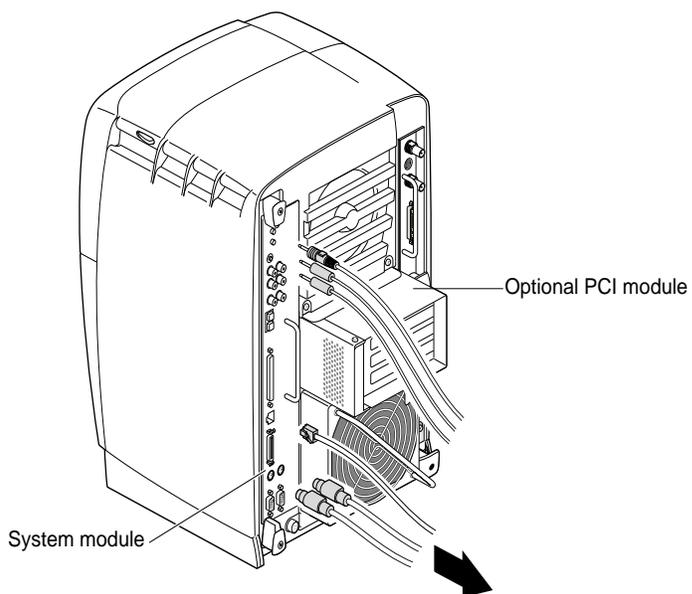

Figure 2-3 Removing the Cables from the System Module
6. Remove the cables attached to the system module, as shown in Figure 2-3.